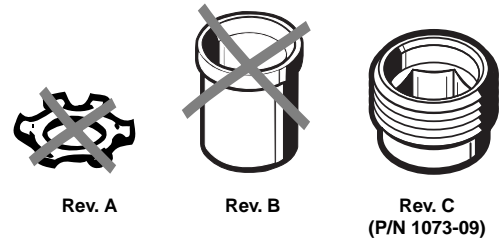

Fig. 4 - Crown Retainer revision identification
18. Closely examine the crown retainer(8) inside the inlet boss of the first stage body to determine if it is a current revision part which can be reused, or an earlier version which must be discarded and replaced with new. A current revision crown retainer (P/N 1073-09) can be identified by the hex opening in its center, and is threaded to fasten over the crown inside the inlet boss. Earlier revisions include a non-threaded cylindrical sleeve, or a locking star washer (see Fig. 4).
19. Stand the main body vertically on the inlet boss over a padded surface, and insert the large end of the seat extractor tool through the central opening. Gently press downward until the crown exits the body (see Fig. 4). Lift the body up and off the crown, and set aside.